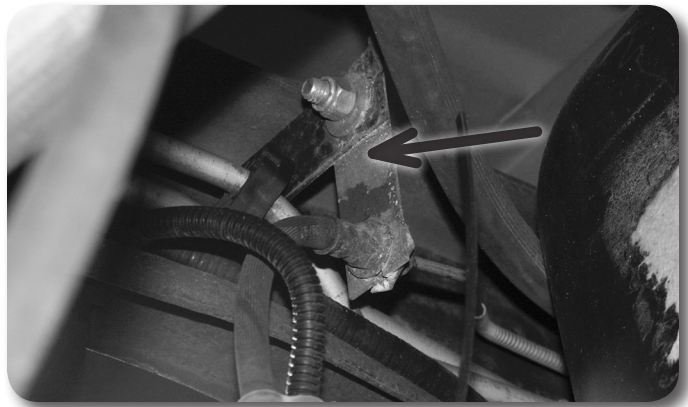

Figure 25
17. Install the new brake line relocation bracket in the factory bracket with the large slotted hole pointing down. Fasten with a 3/8" x 1" bolt, nut, and washers and tighten securely. Figure 25